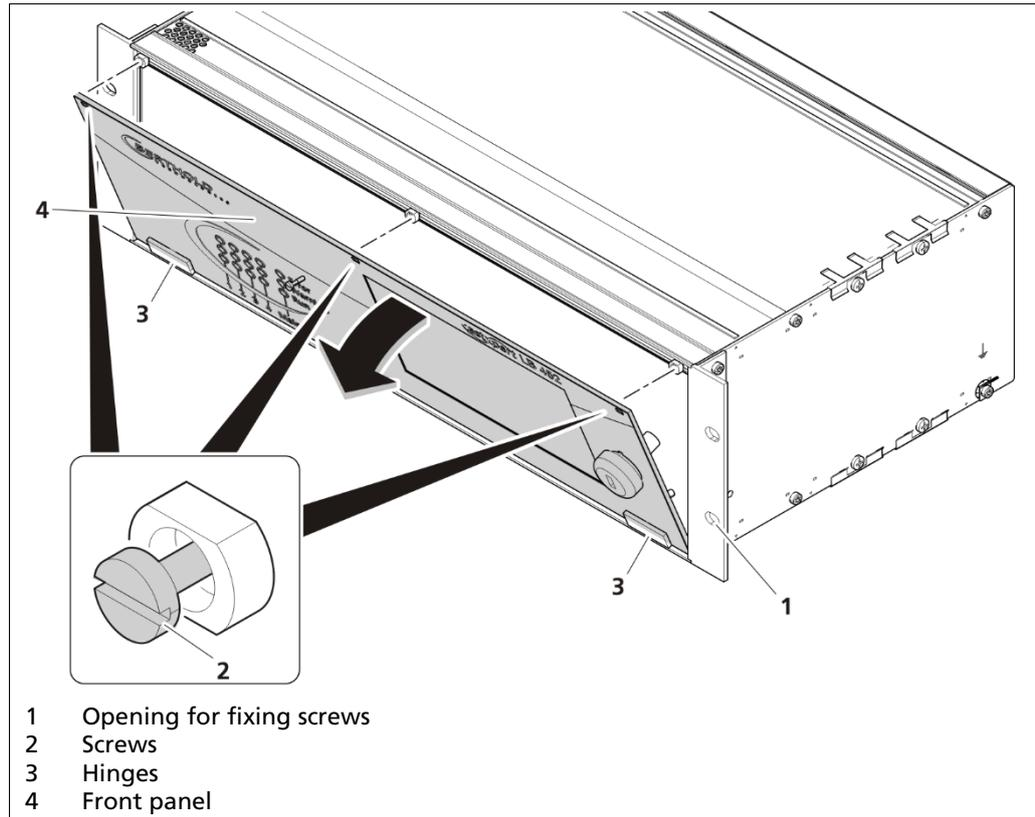

Fig. 10 Assembly Front View
2. Loosen the three screws (Fig. 10, Item 2) on the front panel
2. Loosen the three screws on the front panel (Fig. 10, Item 2).
2. Loosen the screws on the front panel (Fig. 10, Item 2) and fold down the front panel.